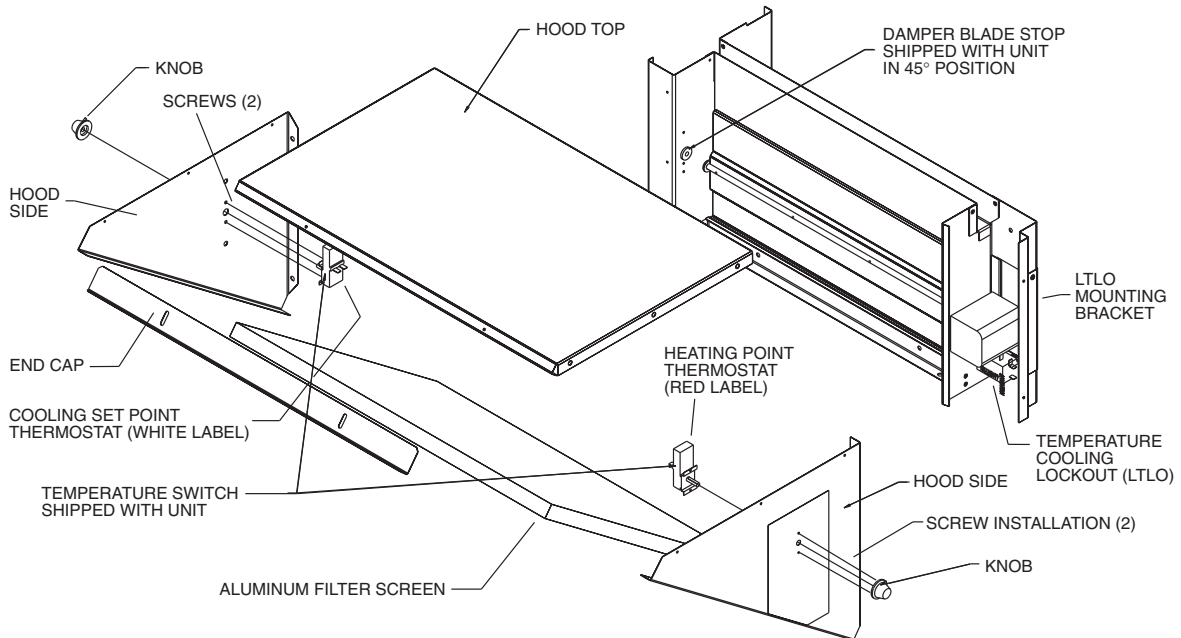

Fig. 11 — Energy Recovery Section Supply-Air Hood Assembly
Step 9 — Assemble and Mount Supply-Air Hood — The hood kit supplied with the energy recovery section is needed to complete this installation. See Fig. 11. The energy recovery section supply air hood installs around its motorized damper inlet.
1. Assemble and mount supply air hood as shown in Fig. 11.
2. Discard the tape that holds the thermostats behind the damper plates. Mount thermostats to the hood sides of the energy recovery section unit into the holes provided, with thermostat terminals facing up. See Fig. 11. Mount outside cooling set point thermostat part number HH22HA060 (white label) on the left side of the hood. See Fig. 11.
3. Mount the outside heating thermostat part number HH22HA065 (red label) on the right side of the hood. See Fig. 11.
4. From the outside of the unit's side panels fasten the thermostat(s) with two mounting screws, with the quick connect terminals face up. See Fig. 11.
5. Install thermostat knobs (provided in kit). See Fig. 11.
6. Set supply air quantity (on units with optional factory-installed supply air fan [GA] or field-installed accessory supply air fan kit [CRFANKIT001-006A00]). Select the fan speed and damper position to obtain desired cfm. Relocate damper stops to the desired position on the damper support rail and adjust the fan speed by relocating the wire on the supply fan motor terminal block. Factory set position is 45 degrees for the damper position, and medium speed for the motor. Relocate stops to top hole for 30 degrees, bottom hole for 60 degrees, and remove stops for 90 degrees (see Fig. 11).
7. Install the aluminum filter screen and end cap with screws along the top, as shown in Fig. 11.